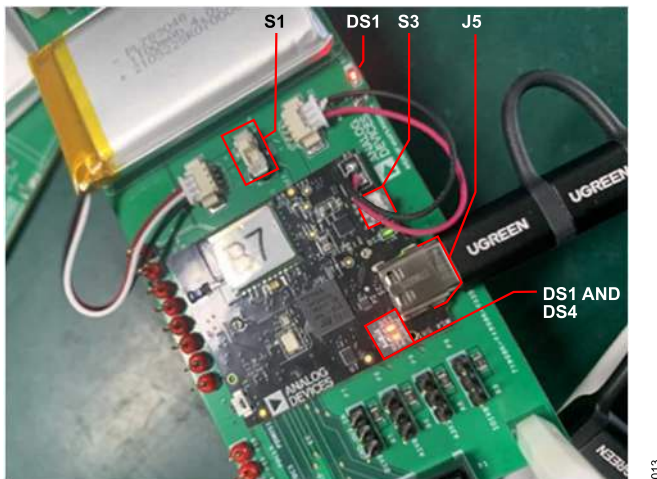

Figure 13. Cable Connection
Connect the USB to Type-C cable from the PC to J5 on the EVAL-VSMUCZ to power on the EVAL-VSMUCZ automatically. The two indicator lights on the EVAL-VSMUCZ (DS1 and DS4) turn on. If the S1 switch labeled in Figure 13 is set to on, the battery is charged by the PC. Figure 13 shows the cable connection.
1. On the EVAL-VSMUCZ, set the S1 switch labeled in Figure 13 to on. The standalone DS1 indicator LED labeled in Figure 13 turns on.